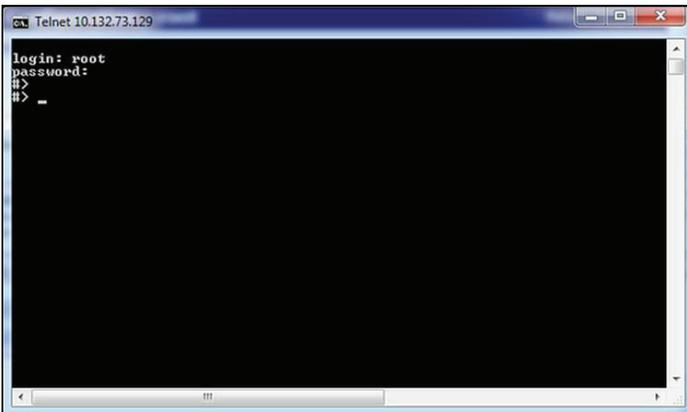

Figure 76: Telnet login
- At the module login: prompt, log in using the root account. Your password will not be echoed back. Upon successful login, the #> module prompt is displayed (see *Figure 76* below).